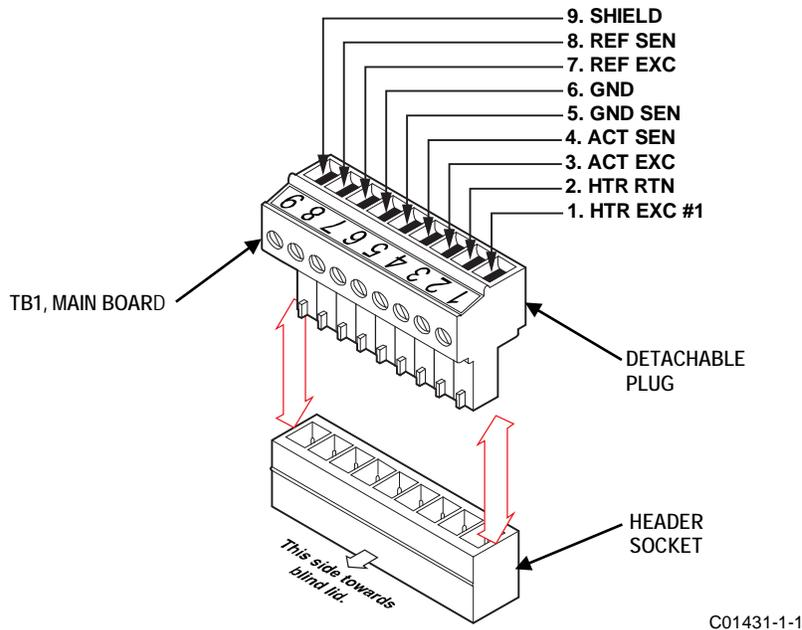

Figure 21 – Flow Element Connections, TB1
Referencing Figure 16 connect the ST80/ST80L flow element sensor wires to the detachable 9-position connector plug **TB1** on the main board. See Figure 21 below. The connector plug accepts 28-16 AWG (0.14 mm² - 1.5 mm²) wire (refer to Table 2, page 20 for wire size vs. length info). Connect the flow element cable shield to the connector plug's GND terminal (terminal #9). Leave the other end of the shield floating (no connection to the flow element enclosure). Connect the flow element sensor to the plug as follows:
3. Strip wire ends (0.27 in [7 mm]) and insert into appropriate plug terminals as shown in Figure 21 below. Make sure to tighten each terminal screw securely (max. torque: 2.2 inch-lbs [0.25 N-m]).